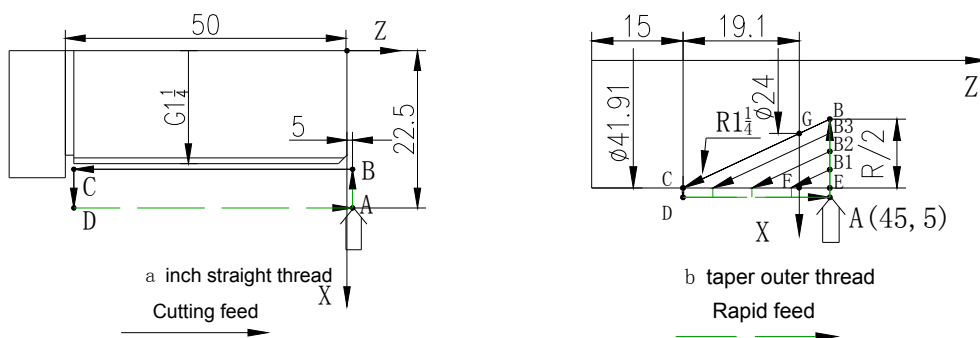

Fig. 4-28
5) Compound example: as Fig. 4-28
**Example 1:** Metric straight thread as Fig. 4-28 a. ( $G1 \frac{1}{4}$ : 11 teeth,  $D=41.910$ ,  $D2=40.431$ ,
**Example 2:** Outer taper thread as Fig. 4-28 b ( $R1 \frac{1}{4}$ :  $D=41.910$ ,  $D2=40.431$ ,  $D1=28.952$ ,  $P=2.309$ , the valid length of thread is 19.1)